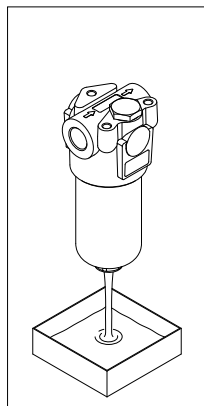

fig. 12
- (Fig. 12) Drain the operating fluid from the bottom of the bowl into the collection vessel